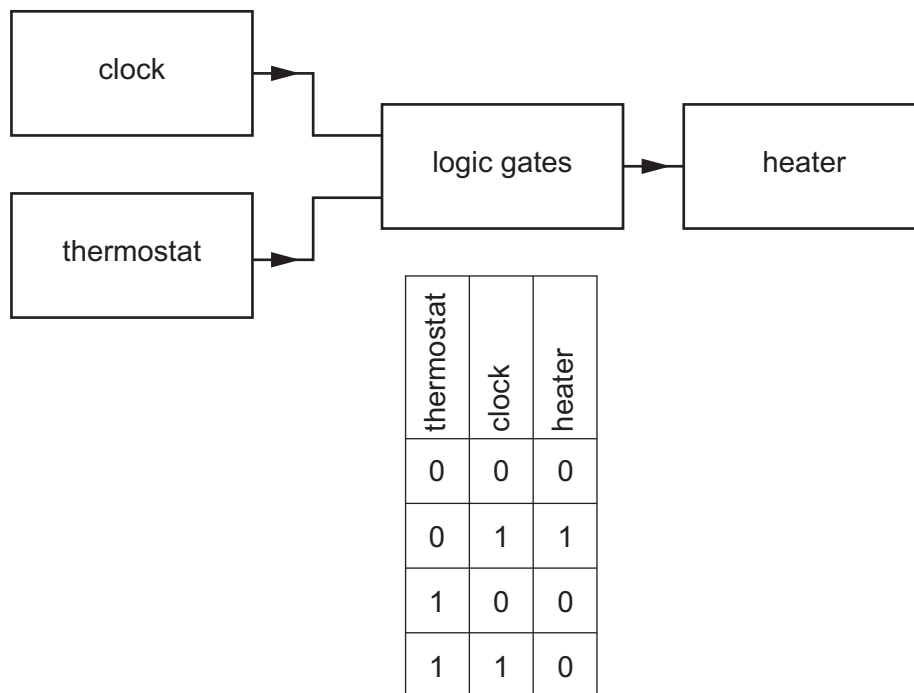

Fig. 11.3
- (c) Fig. 11.3 shows a block diagram of a heating system and the truth table for the system. For the heater to switch on, the clock must be at logic 1 and the thermostat at logic 0.